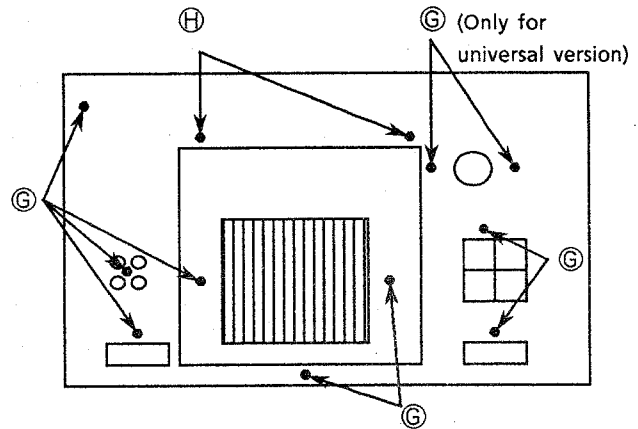

Fig. 5 Rear view
1. Remove the 2 screws ③ (Fig. 5).
3. Remove the screws ② (Fig. 5).